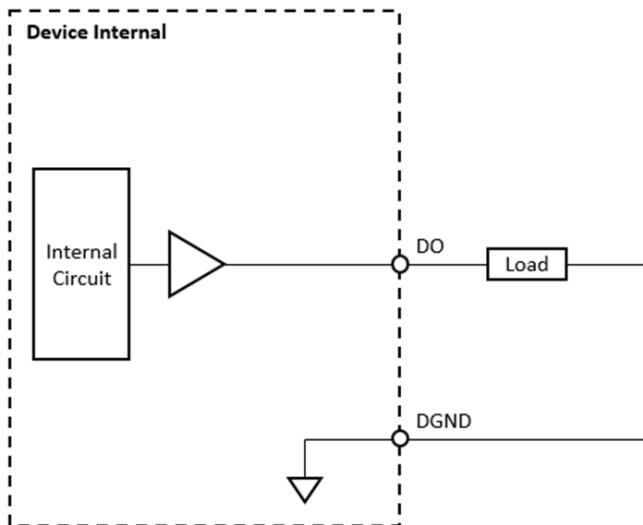

Figure 2.10 Digital output signal connection.
A digital output (DO) channel can perform digital output generation. A voltage logic level is generated between the digital output (DO) terminal and the digital ground (DGND) terminal. This is shown in Figure 2.10.